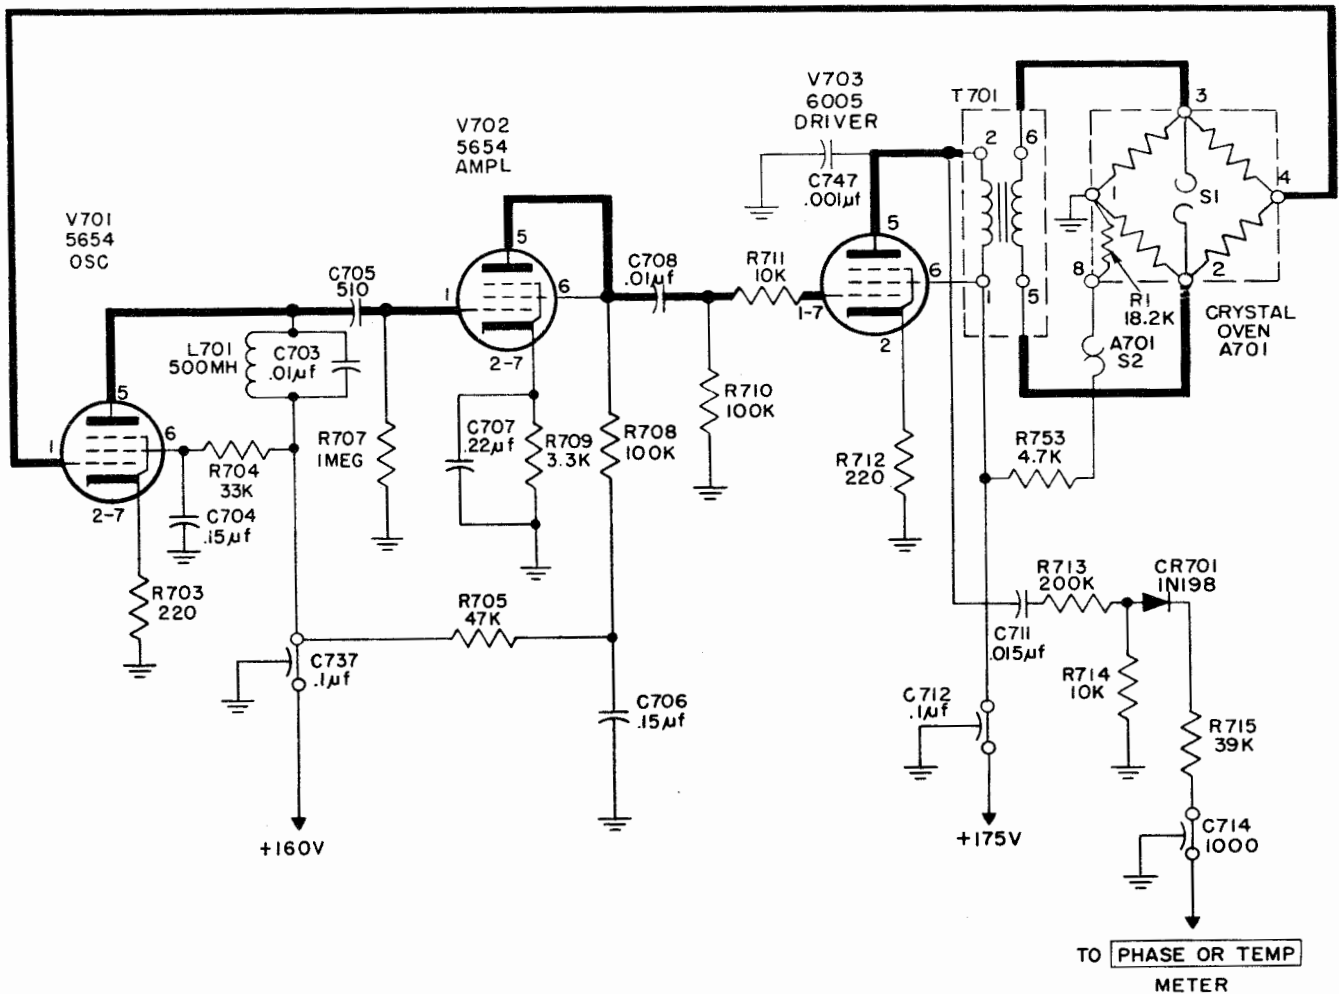

Figure 4-39. Oven Oscillator-Amplifier, Simplified Schematic Diagram
a. OVEN OSCILLATOR-AMPLIFIER. (See figure 4-39.)—The oven oscillator-amplifier circuit is a fixed-frequency audio amplifier with a positive feedback which produces circuit oscillation. Power produced by the oscillator is applied to the heating elements of crystal oven assembly A701.
The 1 mc crystal and related components mounted in the oven are also parts of the oven assembly but not functional parts of the oven oscillator-amplifier circuit; therefore they have been omitted from figure 4-39. The complete oven is mounted in a Dewar flask similar to a